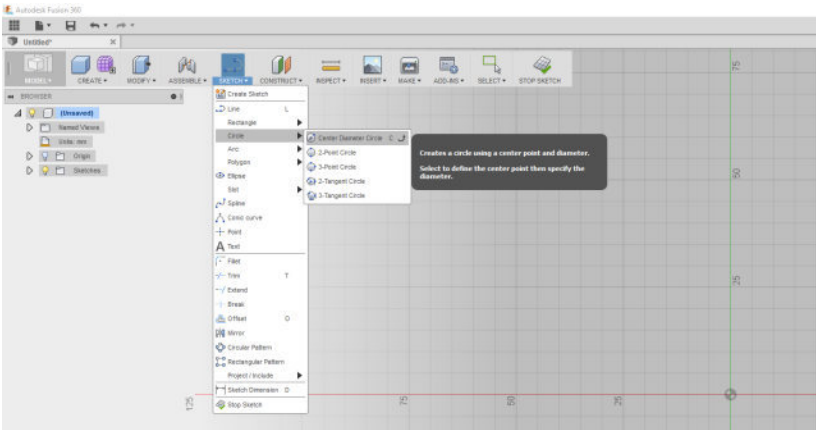

Figure 11-5. In the Sketch mode, choose Circle and Center Diameter Circle
4. Under the Sketch icon click Circle, then Center Diameter Circle as shown in Figure 11-5.